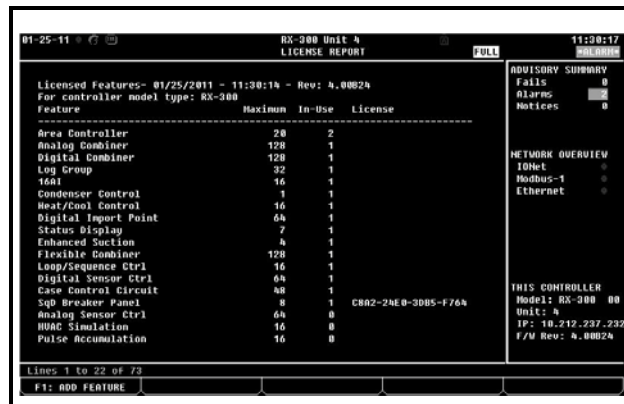

Figure 3-22 - License Report Screen
4. Reboot the controller and open the License Report screen again to see the license key appear next to the activated feature (*Figure 3-22*):